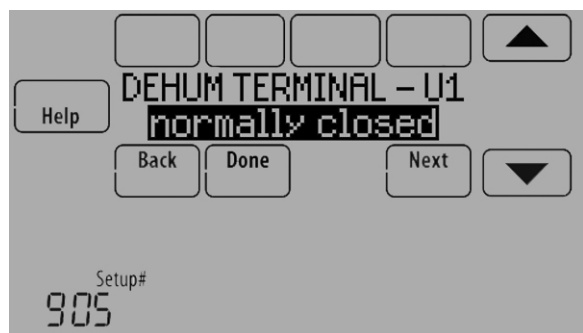

Fig. 147.
3. Select whether the U1 terminal is Normally Open or Normally Closed. See Fig. 147.